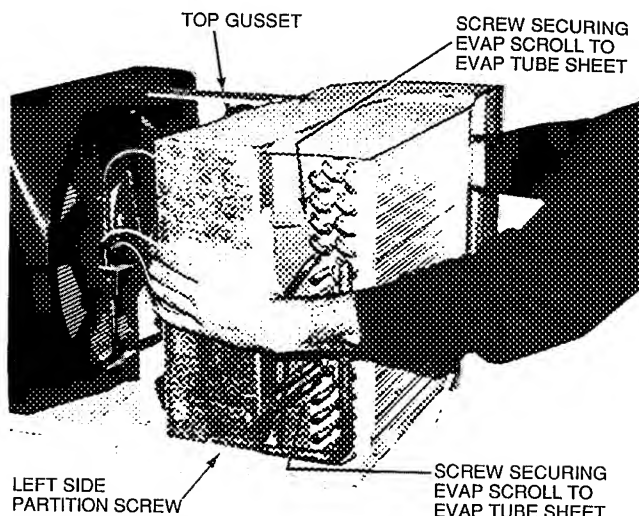
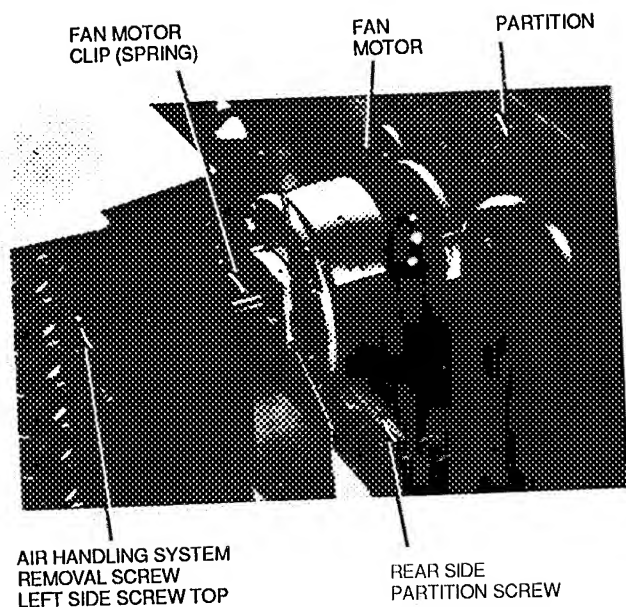

Fig. 16 – Preparing to Lift Air Handling System
Fig. 17 — Removing Fan Motor Clip
2. Remove 2 screws securing partition to basepan as shown in Fig. 15, and one screw on left side (Fig. 16), and one screw on rear side of partition (Fig. 17), in area of motor.
3. Remove 2 screws securing evaporator scroll to evaporator tube sheet. See Fig. 16.
6. Remove fan motor clip. See Fig. 17.